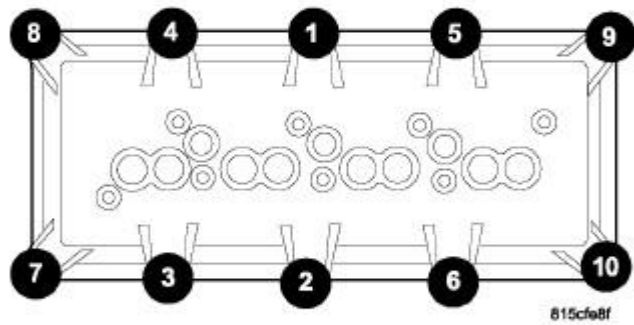

Fig. 79: Cylinder Head Cover Torque Sequence
3. Tighten cylinder head cover bolts and double ended studs to 8 N.m (70 in. lbs.) in the sequence shown. See **Fig. 79**.